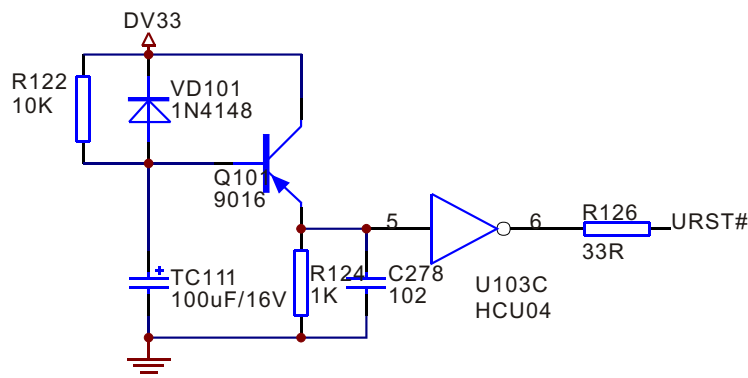

Figure 3.2.12.1 Reset circuit diagram
When the player is playing normally, shown in the figure 3.2.12.1, MT1389E outputs analog audio signal and outputs a low level signal at the same time to VMUTE to make Q211 connected. B electrode voltage of Q211B is about 2.7V, collector electrode voltage of Q211 is about 3.3V, so Q212 is also connected. B electrode voltage is about 0.7V, E electrode voltage of Q213E is close to zero, Q213 cuts
As shown in the figure 3.2.12.1, when the player is working normally, D204 is connected, +5V charges the capacitor Tc221 through D20, now transmitters voltage of Q214 is lower than base electrode voltage and Q214 cuts off. When power off, +5V disappears, base electrode of Q214 becomes low level and its transmitter electrode becomes high level because of Tc221 discharge, now Q214 is connected, collector electrode of Q214 (AMUTE) outputs high level to add on base electrode of switch pipe Q205-Q210, switch pipe is saturated, noise from power on/off process is by-passed to ground and power off quieting function is realized.
1. Reset circuit is shown in the figure 3.2.12.1: